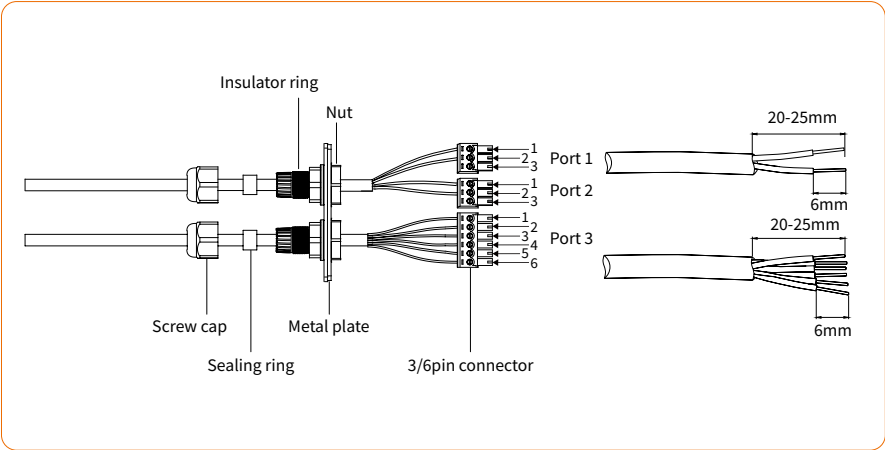

Figure 4-27
- ① Remove the COM2 plate in the bottom of the inverter with a cross screwdriver.
- ② Put the cable through the connector and connect to the terminal in the following order: screw cap, sealing ring, insulator, metal plate, nut and 3/6pin connector, as shown in Figure 4-27: